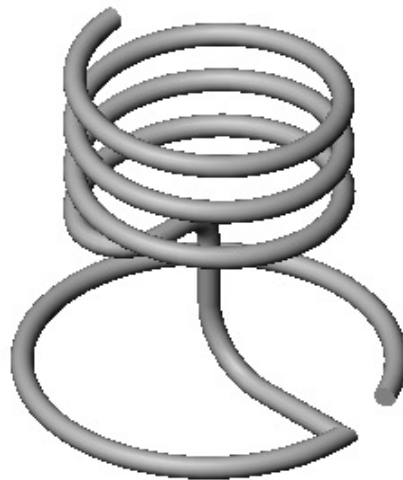

Figure 1 Candle Holder Model
The Candle Holder is shown in Figure 1.
11. Create and dimension the sketch shown in Figure 1. The sketch consists of a **line** and an **arc**. Make sure to fully define the geometry.